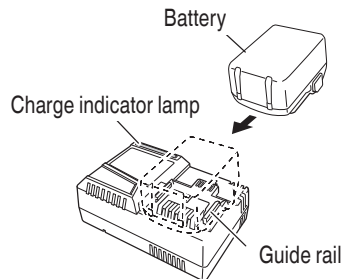

Fig. 10
2. Insert the battery to the battery charger. Firmly Insert the battery into the battery charger as shown in Fig. 10.